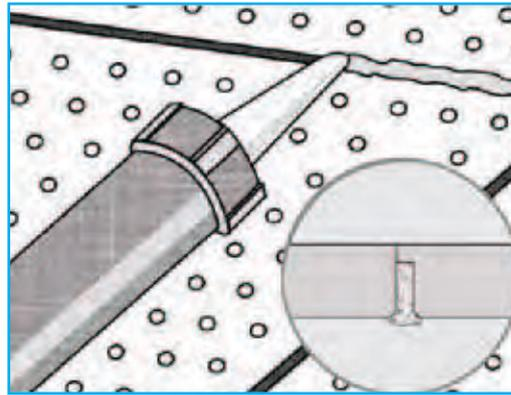

FIGURE 9 Joint Filling (with Uniflott)
- Fill joints fully with Uniflott using the Uniflott Caulking Gun, Jet Gun or Cartridge. *[Figure 9]*